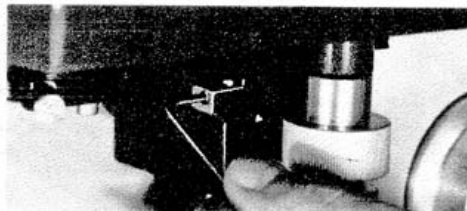

Figure 4. Condenser Stop Screw
- Using 5/64" Allen wrench, loosen condenser stop screw (Figure 4). Condenser stop will pop up.